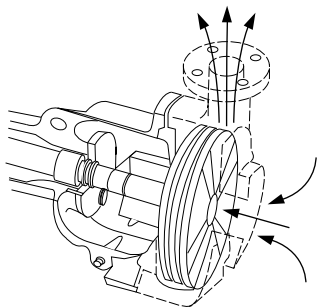

FIGURE 8. Viscous Drag Pump
- The resulting frictional resistance force field between the interacting elements and the natural inclination of a fluid to resist separation of its own continuum, creates the adhesion phenomenon known as viscous drag. These effects acting together are the motivators in transferring the necessary tangential and centrifugal forces to propel the liquid with increasing momentum towards the discharge outlet located at the periphery of the disks (Figure 8).